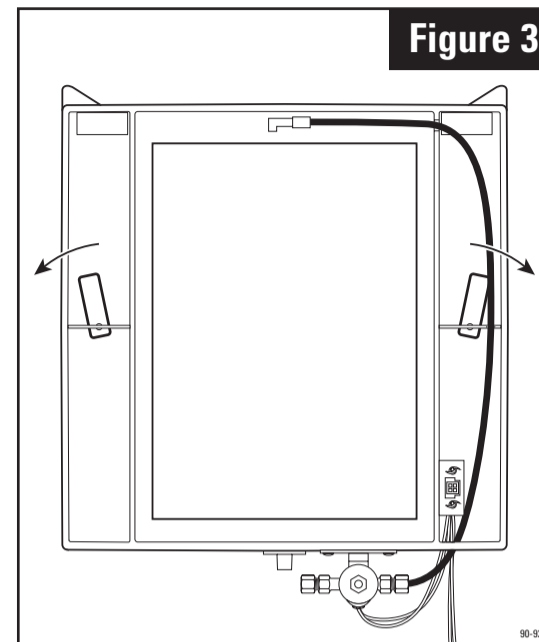

Figure 3
4. While pressing the base against the plenum, reach through the center opening and turn left and right swing latches down to secure the base onto the plenum. (See Figure 3)
5. Reinstall the Water Panel® evaporator assembly into the base, with the bottom of the scale control insert (5) sitting firmly in the inside of the drain spud attached to the base. Push the Water Panel® evaporator assembly in at the top between the retaining ribs that hold the assembly in place in a vertical position. Reinstall cover assembly by hooking at the top of base assembly and latching at the bottom.